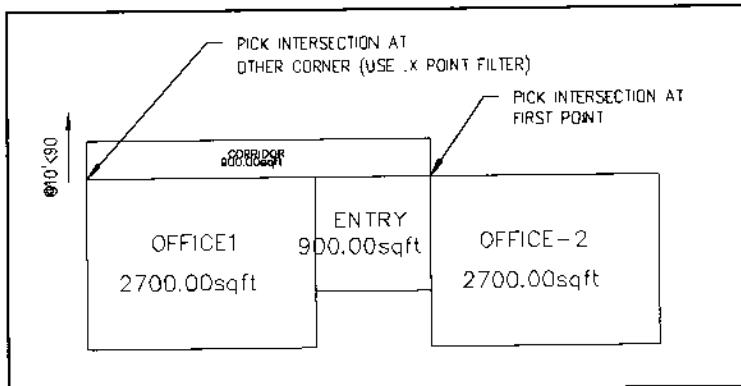

Figure 28.
5. The completed Corridor space is shown in Figure 28.